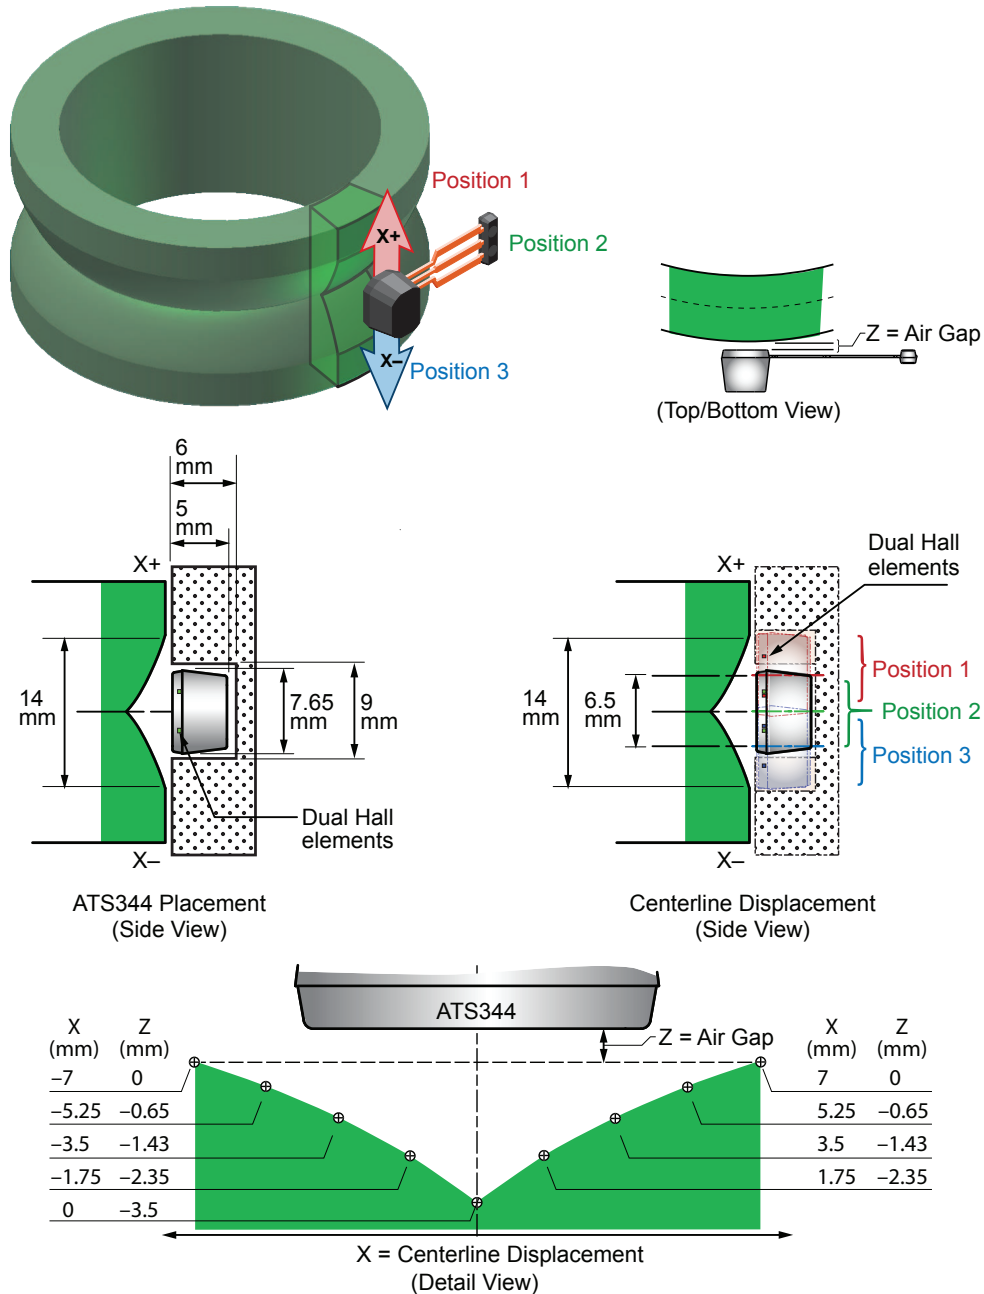
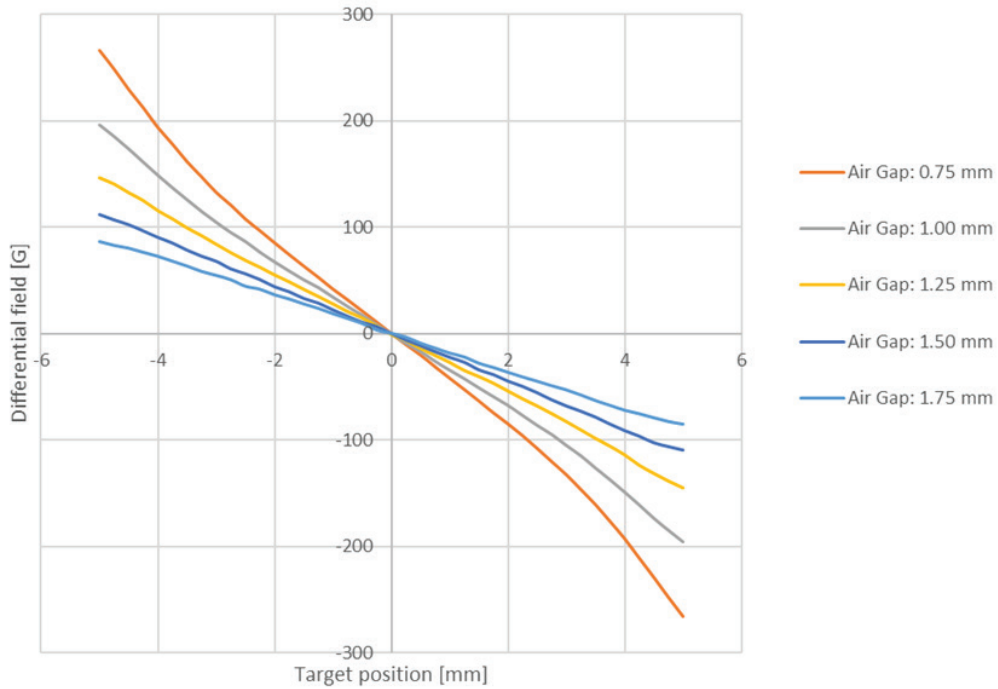

Figure 2: Reference Target Characteristics
Figure 3: ATS344LSP Reference Target – Differential Input Signal versus Target Position
The OUTPUT_INVERT parameter sets the device output signal polarity with respect to the sensed magnetic response polarity. The default (0) is depicted in Figure 3, referenced to Figure 2, where the sensor is moving relative to the target. Setting the parameter to 1 inverts the output value.